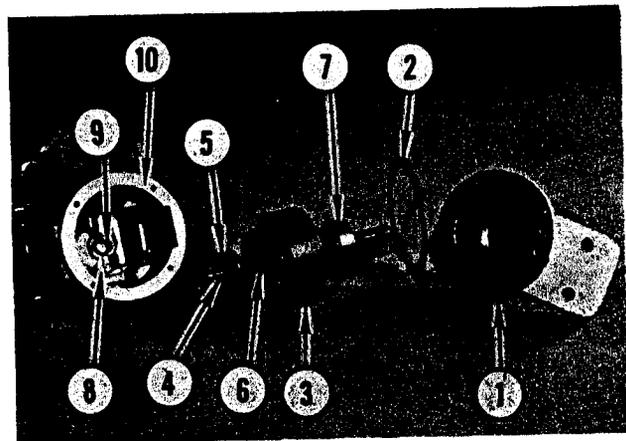

FIGURE 35. TAILSHAFT GOVERNOR DISASSEMBLY (PF ONLY)
Refer to Figure 35. Follow the numerical sequence as shown for disassembly. Remove four capscrews and lockwashers retaining governor flange (1) to governor housing. Remove flange and gasket (2). Lift spider assembly (3) from housing. Remove snap ring (4) from spider shaft. Remove thrust bearing (5). Remove sleeve (6). Remove bearing (7). Remove two slotted capscrews retaining yoke (8) to housing and remove yoke. Remove bushing (9) from bore in end of housing (10).